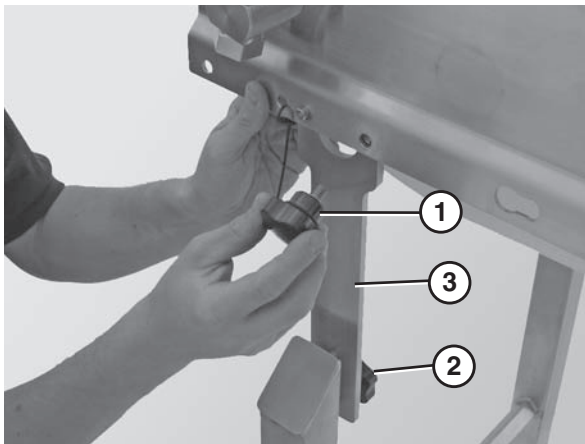

Figure 27
1. Disconnect the cutoff knob (Figure 27, item 1).
2. Loosen the lobed knob (Figure 27, item 2) and push in on the pivot bracket (Figure 27, item 3). *Note: The lobed knob will need to be loose enough that the locking pins are no longer holding the bracket in place.*